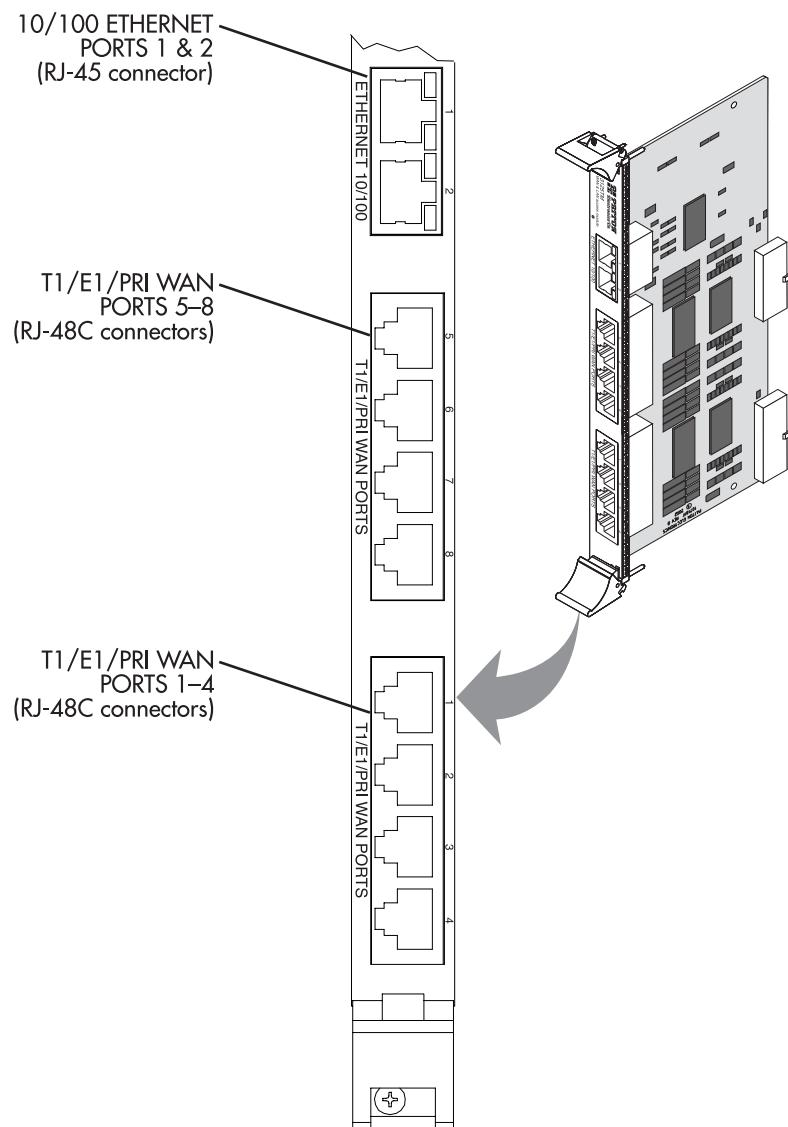
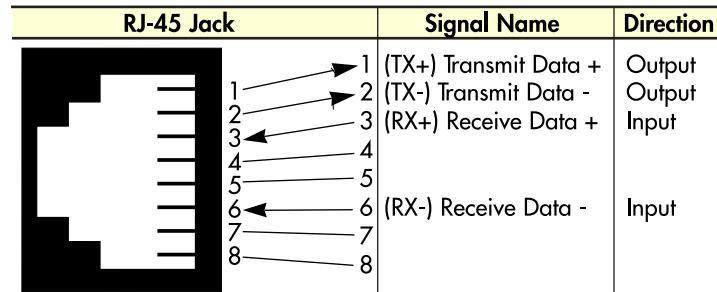
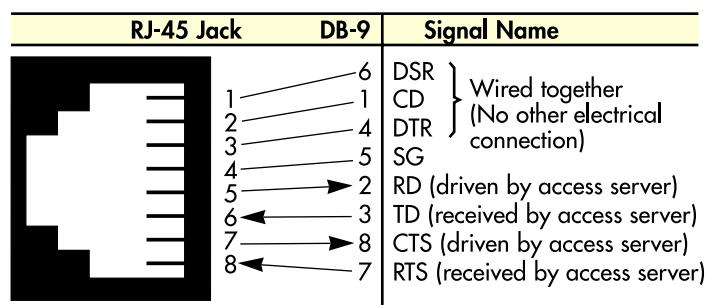

Figure 12. 3125TM network ports
Figure 13. Straight-through RJ-45-to-RJ-45 Ethernet cable diagram
Figure 15. DB-9-to-RJ-45 cable diagram
The 3125TM has a dual 10/100 Ethernet interface for connection to your LAN (see figure 12). The Ethernet port will autosense the correct speed of the local LAN and automatically negotiate half- or full-duplex operation. This section describes connecting the RAS to the Ethernet LAN via an Ethernet hub, switch, or workstation.
The 10/100Base-T Ethernet port (see figure 12 on page 31) is designed to connect to an Ethernet switch or hub. Connect a straight-through CAT-5 cable (one wired as shown in figure 13) between the RAS and the hub/switch.
Install the supplied DB-9-to-RJ-45 cable between the RAS RS-232 port (see figure 12 on page 31) and an open serial port on your computer. If you need to assemble your own cable, refer to the pinout diagram in figure 15.
1. If you have not done so already, install the supplied DB-9-to-RJ-45 cable between the RAS RS-232 port (see figure 12 on page 31) and an open serial port on your computer.